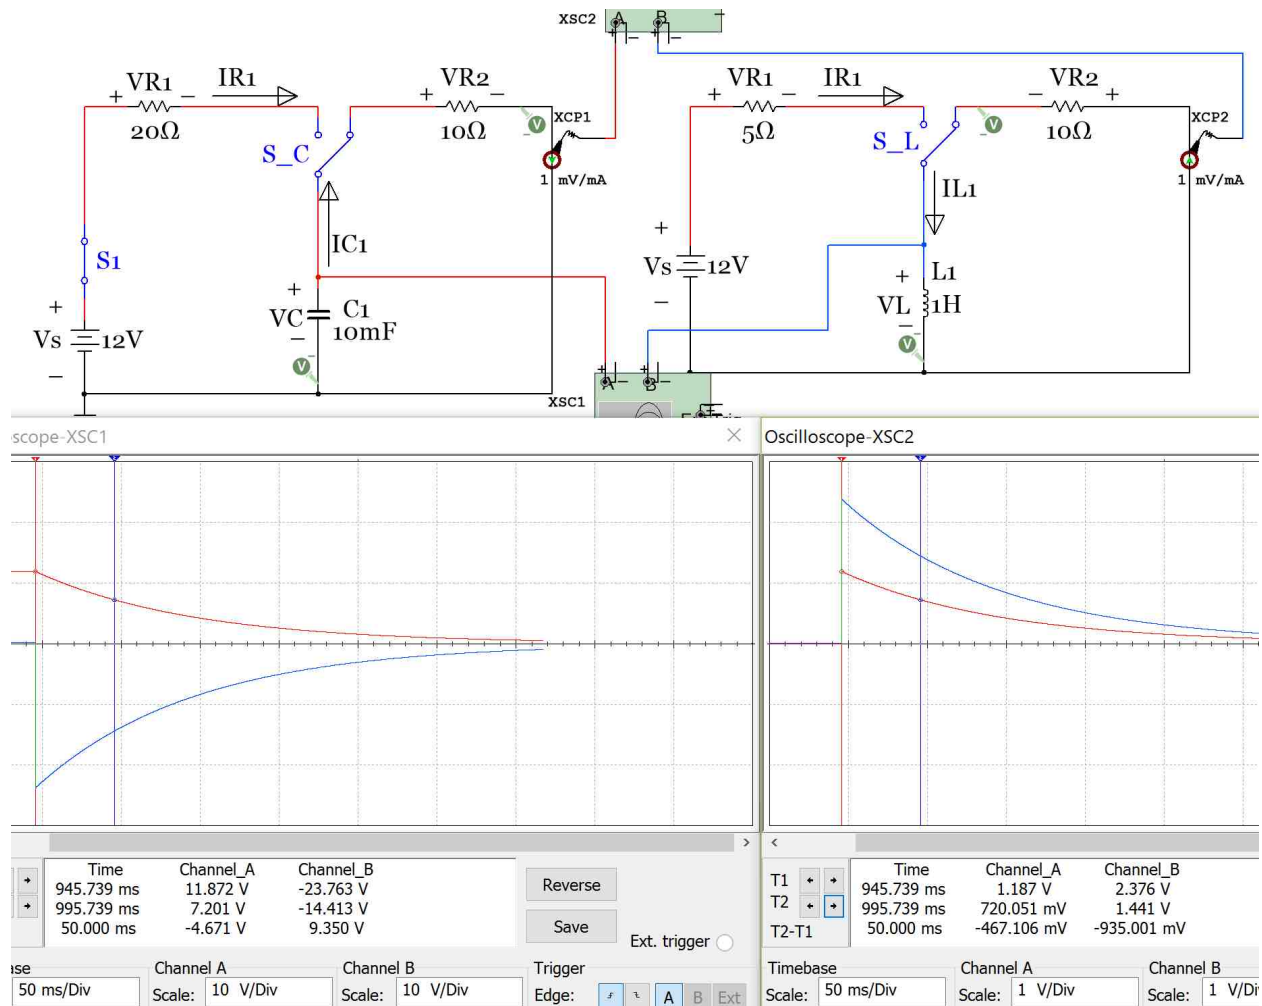
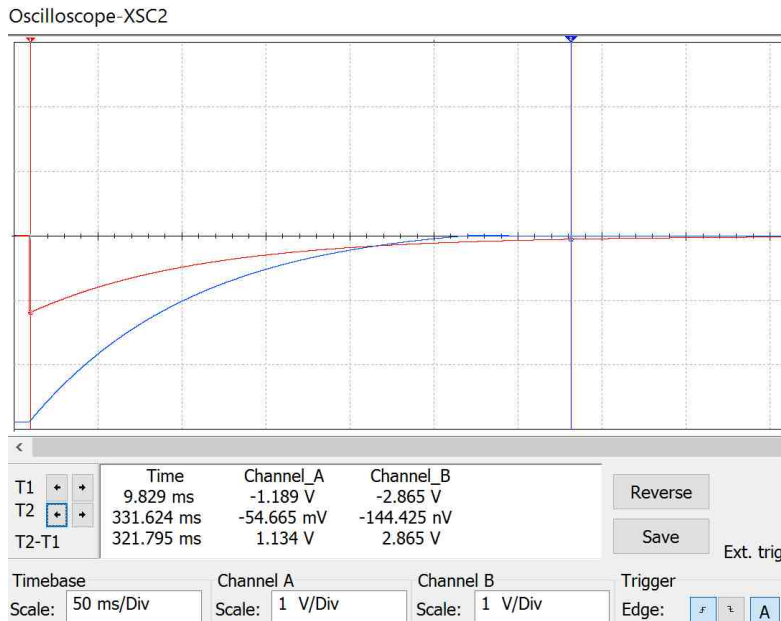

Figure 3.25: RC and RL discharging circuits for Example 3.9.
**Figure 3.26:** RC and RL discharging circuits in Example 3.9 with an LED added.
**Note on polarized capacitors:** Capacitor network 2 includes electrolytic capacitors in Multisim. Notice they have a + sign showing the anode and the cathode has a curved end instead of a flat end like the anode. These capacitors must be placed in the direction of the current flow (as they are in Figure 3.25). Capacitor network 1 included non-polarized capacitors. These capacitors can be put in either direction and the anode will automatically be oriented in the direction of the current flow. Either end of the non-
*Example 3.9) In the circuit in Figure 3.25, the switches  $S_C$  and  $S_L$  are initially in the charging circuit and remain there until steady state is reached. Determine the voltage and current of the capacitor and inductor right after switches  $S_C$  and  $S_L$  are moved to the discharge circuit ( $t = 0+$ ) and 50 msec after the switches have been moved to the discharge circuit. The cursor on the scope plot below already has T2-T1 placed at 50 msec. Perform calculations and compare the results with those obtained from the Multisim oscilloscope.*
**Note:** When adding an LED in this discharge circuit (like the circuit in Figure 3.9) equations 3.21 to 3.24 will no longer work because the requirement of only one voltage source network is violated. When the diode is forward biased the LED is modeled as a Voltage source, which gives the circuit a second component that acts as a source. The capacitor in the discharge circuit acts like a dissipating voltage source and the inductor in a RL discharge circuit acts as a dissipating current source. The circuit in Figure 3.25 is repeated with the addition of an LED and the scope below shows that the values change. The current clamps were moved in this figure so that they are across the capacitor and inductor in the RC and RL discharge circuits respectively. By moving the current clamps, the steady state values of  $i_c$  and  $i_L$  can be seen on the scope.
The disruption on the blue trace on the left circuit of Figure 3.26 (inductor voltage trace) occurs due to the LED going from forward bias to reverse bias at that point in time. When the numbers in Figure 3.26 are compared to Figure 3.25 significant differences can be seen due to the addition of the LED. Calculating the transient region values for circuits like this is beyond the scope of this document.
The “steady state” value for a DC circuit is the value when time approaches infinity. In other words, it is the DC value after it stabilizes and stops changing at the end of the transient region. For example, the oscilloscope plot below, which is a duplicate of the current scope plots in Figure 3.26, has a transient region that is approximately located between the two cursors. After the time associated with the second cursor the inductor voltage (blue trace) has stabilized to approximately zero, so 0 V would be considered its steady state value. The capacitor voltage is still at -54.665 mV at the time associated with the second cursor so it is not quite at its steady state value yet, but it is getting close.